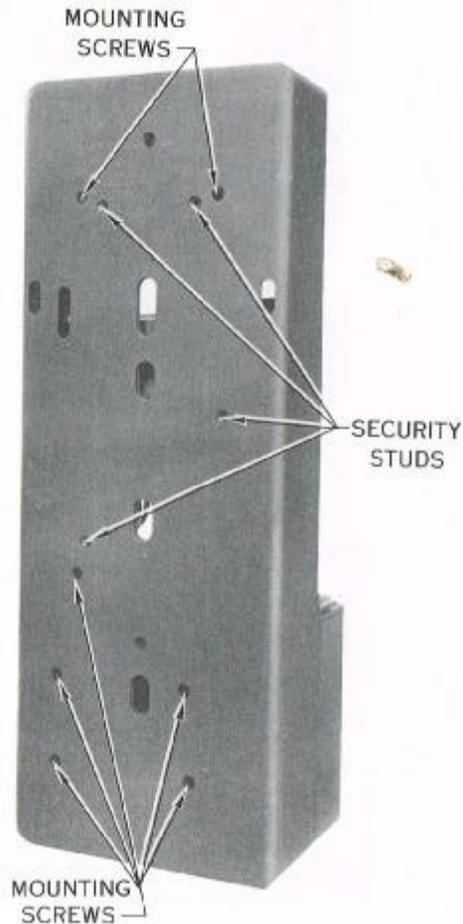

Fig. 5 - Location of Mounting Holes
5.05 Place four security studs in the IA-type coin telephone. See Table A for proper security studs and Fig. 5 for location. Security studs are not provided with the telephone set and must be ordered separately.
5.06 Feed inside wire through entrance hole (Fig. 5) as set is put on backboard.